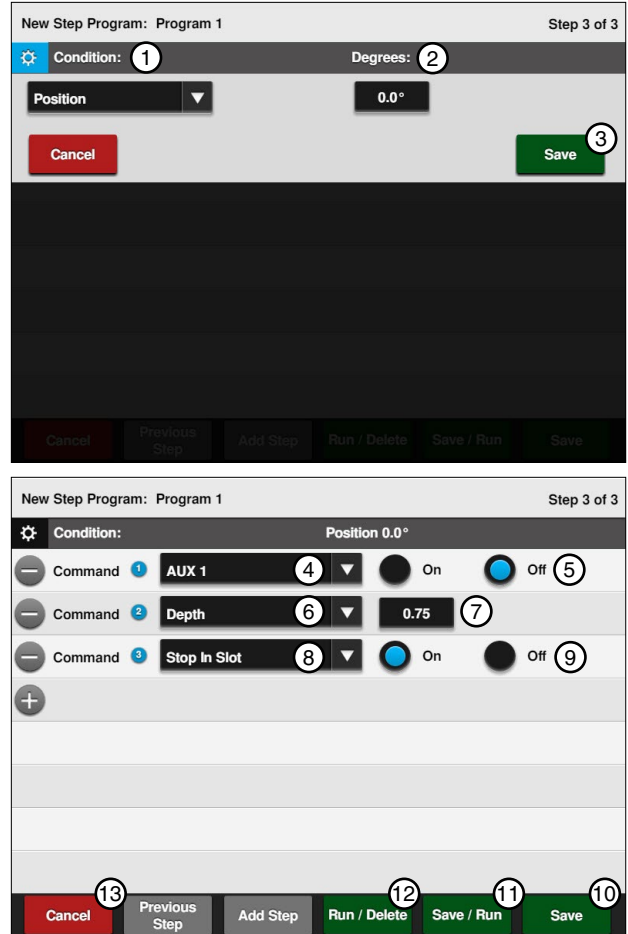

Figure 113-1
7. Program the position condition for this step. Refer to Figure 113-1.
9. Finish the program by selecting one of the following. Refer to Figure 113-1.